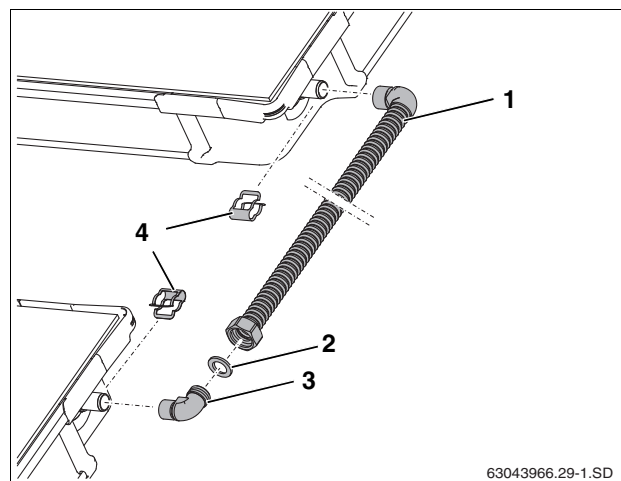

Fig. 56 Connection set between two collector rows
- Insert gasket (Fig. 56, [2]) into union nut.
- Insert elbow (Fig. 56, [3]) into union nut G1, align and tighten.
- Push connection pipe (Fig. 56, [1]) onto the collector connections and fix in place using clips (Fig. 56, [4]) from the connection kit.